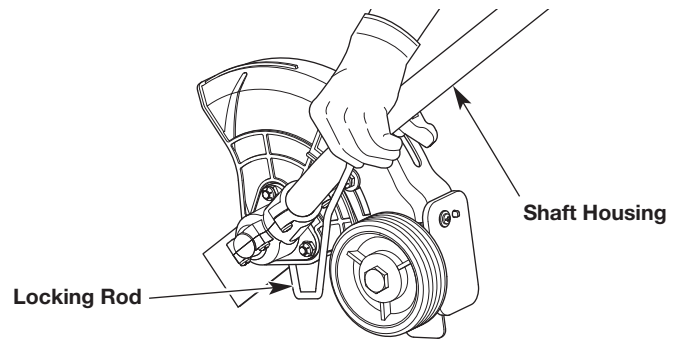

Fig. 8
2. Keep the locking rod in place by holding it next to the shaft housing (Fig.8).
7. Keep the locking rod in place by holding it next to the shaft housing (Fig.8).